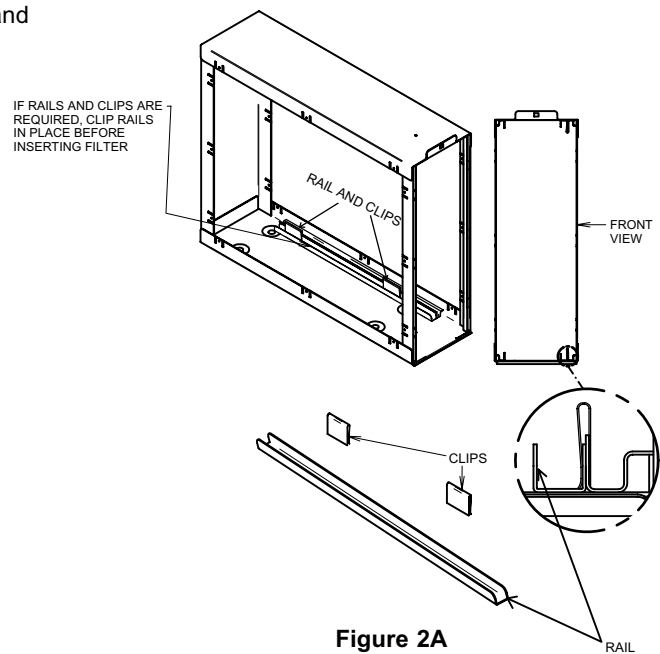

Figure 2A
**Note ACM2000U Compartment:** This unit has removable rails (see figure 2A). This unit is installed with the rails to be used with a 24.5" x 19.9" x 4.3" filter. Remove the rails and a 5" filter may be used.